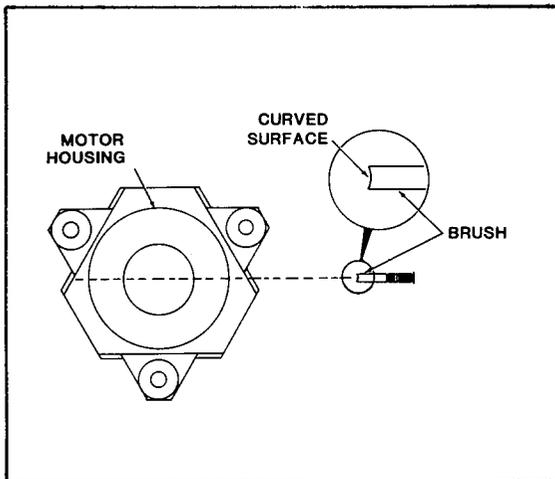

Figure 5-8. Motor Brush Orientation
- e. Orient curved surface of each brush so that it matches curvature of motor housing as shown in Figure 5-8.